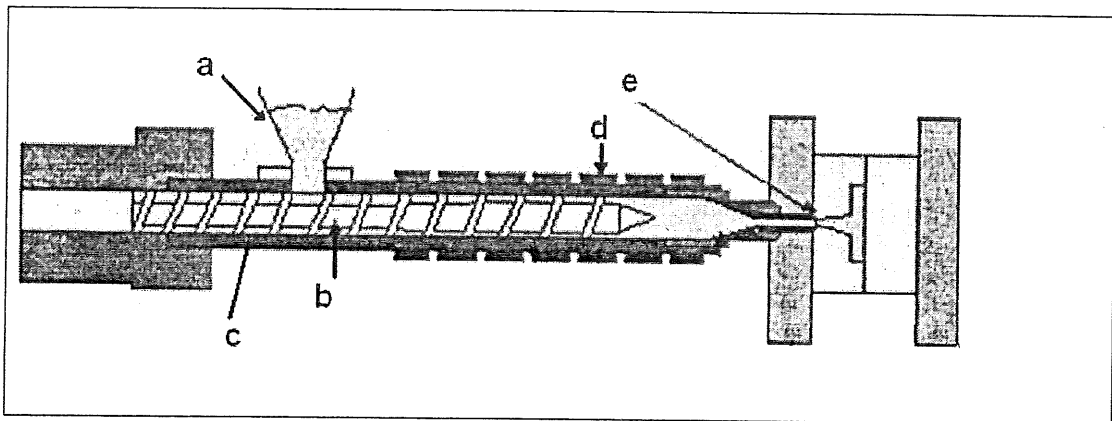

Figure PT2
- a) Referring to the **Figure PT2** below, briefly **describe** the function of each component of injection moulding machine tagged. (10 marks)